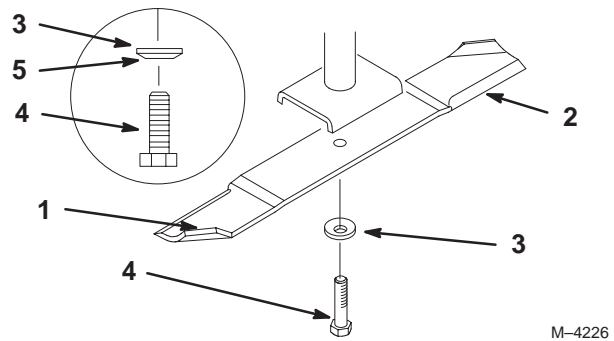

Figure 37
1. Install the blade onto the spindle shaft (Fig. 37).
2. Install the spring disk and blade bolt (Fig. 37). **Torque the blade bolt to 85–110 ft-lb (115–150 N•m).**